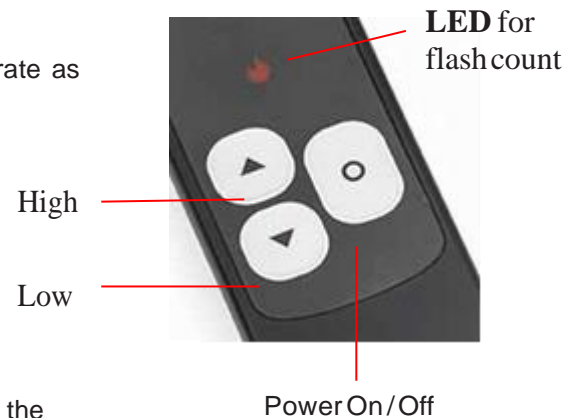

Figure 8.1
1. Normal Remote Operation – Figure 8.1